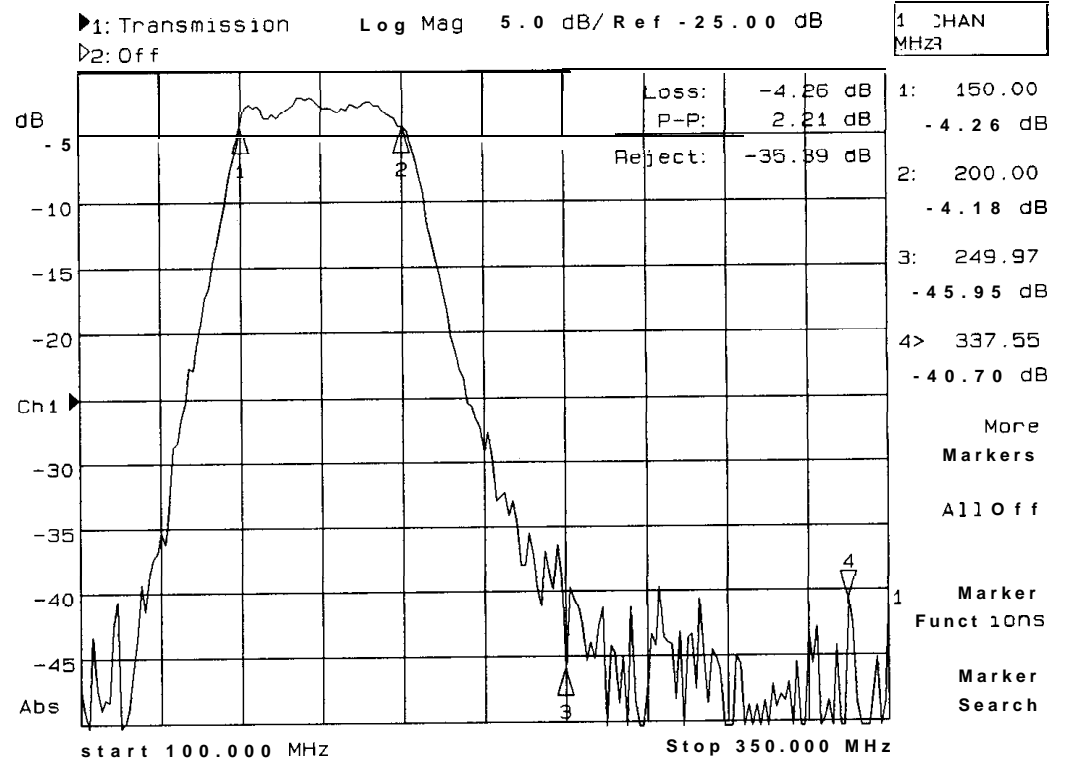

Figure 4.14. RF Filter Statistics Function
4. See Figure 4-14 for an example of an RF filter stats search.